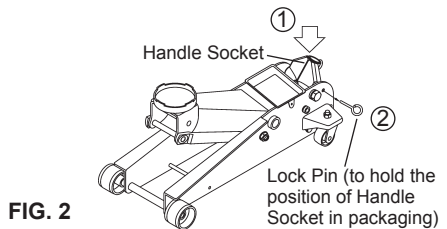

FIG. 2
1. Press and hold the handle socket to loosen the lock pin (Fig. 2).